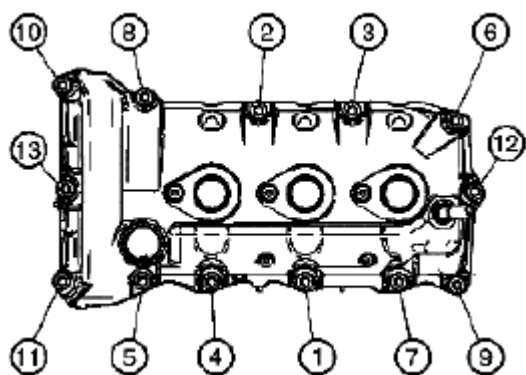

Fig. 105: Tightening Sequence For Left Camshaft Cover Bolts
5. Tighten the left camshaft cover bolts in the sequence shown in **Fig. 105**.